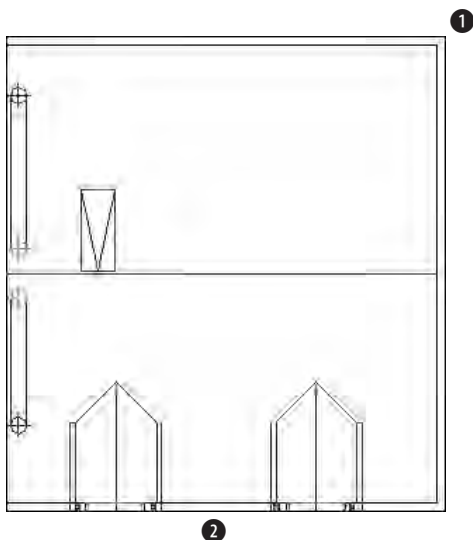

Figure 10-25: A plan view of a garage
2. Save the file as ab10-08.dwg in your AutoCAD Bible folder. This drawing is the plan view of a garage, as shown in Figure 10-25. Turn on polar tracking by clicking POLAR on the status bar. Click SNAP on the status bar and then right-click SNAP to make sure Polar Snap is on (the Polar Snap item will be unavailable if it is already on); otherwise, choose Polar Snap. Turn on OSNAP and set a running object snap for endpoints.
3.  Choose Stretch from the Modify toolbar. At the Select objects: prompt, pick ❶ in Figure 10-25. At the Specify opposite corner: prompt, pick ❷. AutoCAD notifies you that it found 32 objects. Press Enter to end object selection.